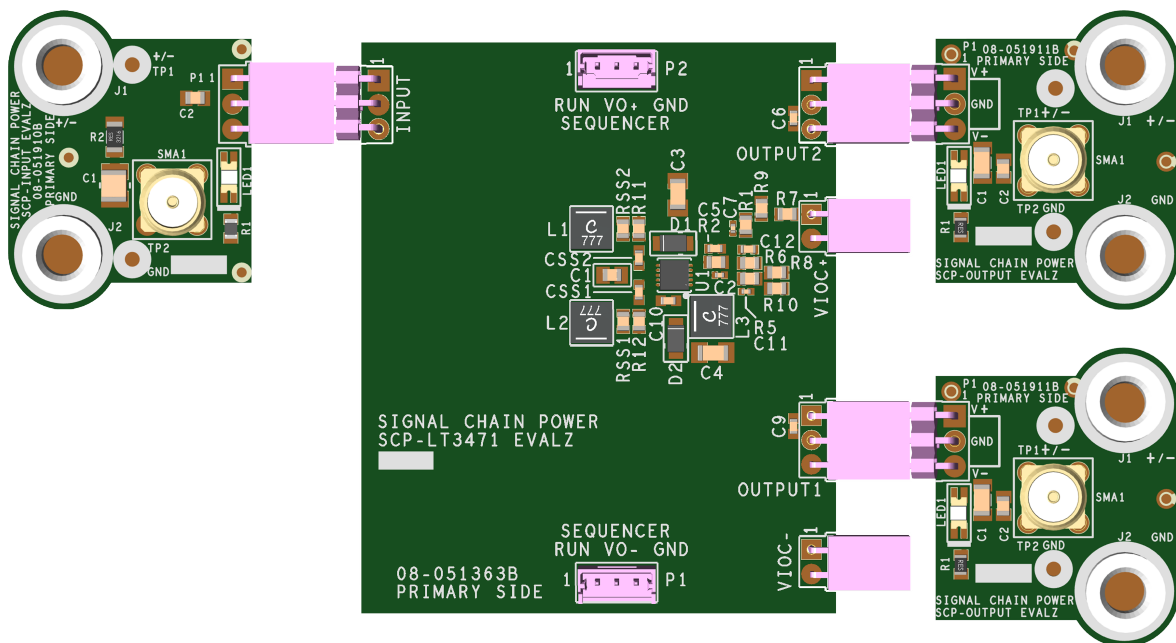

Figure 2. Proper Measurement Equipment Setup (Use SMA connectors for Measuring Input or Output Ripple)
2. Connect the SCP-INPUT-EVALZ and SCP-OUTPUT-EVALZ boards to the SCP-LT3471-EVALZ (refer to Figure 2) and connect the input board to a voltage source, V_{SOURCE} . Connect the output board to a voltmeter or dynamic load. Slowly raise the input voltage until the SCP-LT3471-EVALZ powers up into regulation and sweep V_{SOURCE} through the desired range of operation.